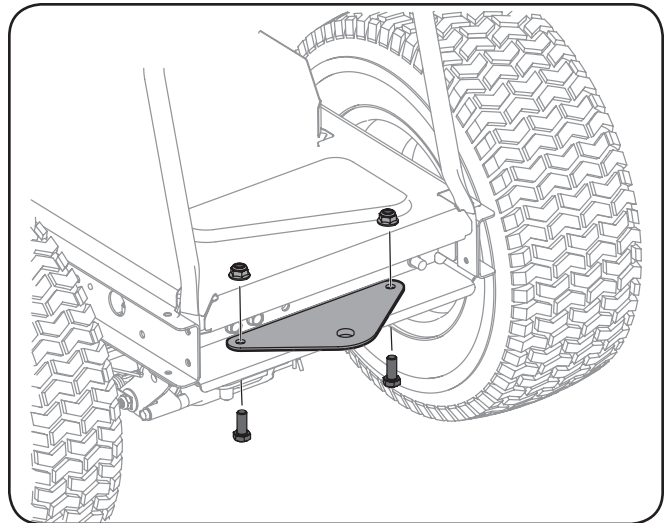

Figure 3-12
1. Remove the factory installed hitch plate mounting hardware located on the rear of the tractor. See Figure 3-12.
2. Position the hitch plate, packed with the loose parts, with the flat side up as shown in Figure 3-12. Secure using the two bolts and hex nuts previously removed.